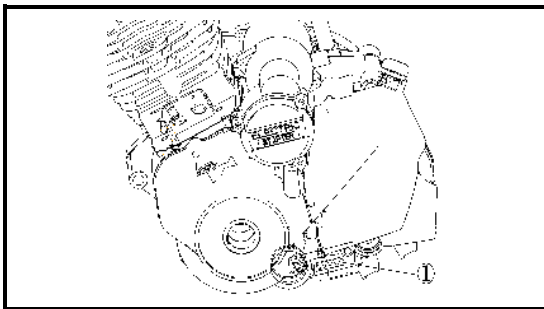

Figure 1-3
3. Serial number of engine ① is marked on the housing of crankcase, as shown in Figure 1-3.